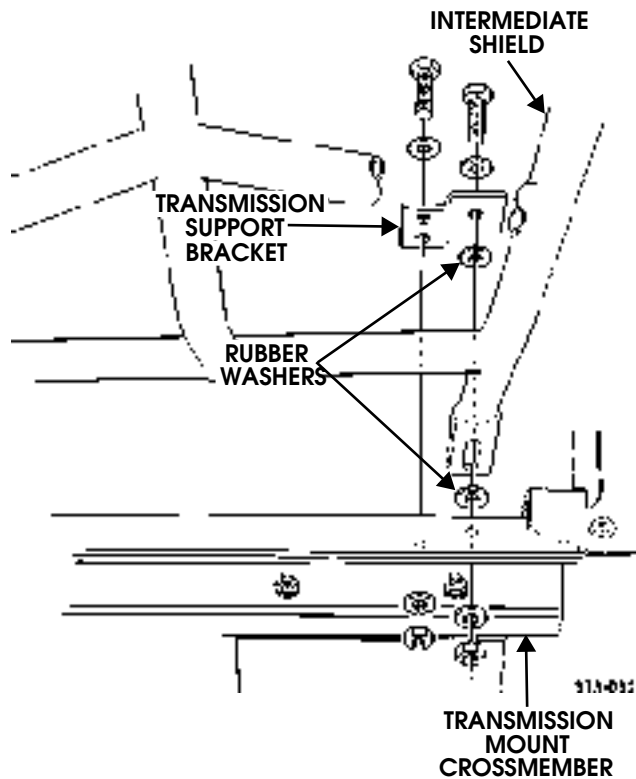

Figure 13-34: Intermediate Shield
1. Remove six locknuts, washers, bolts, washers, and four rubber washers securing two transmission support brackets and intermediate shield to transmission mount crossmember. Remove support brackets. Discard locknuts (Figure 13-34).
6. Install two transmission support brackets on transmission mount crossmember with four washers, bolts, washers, and locknuts. Tighten locknuts to 24 lb-ft (33 N•m) (Figure 13-34).